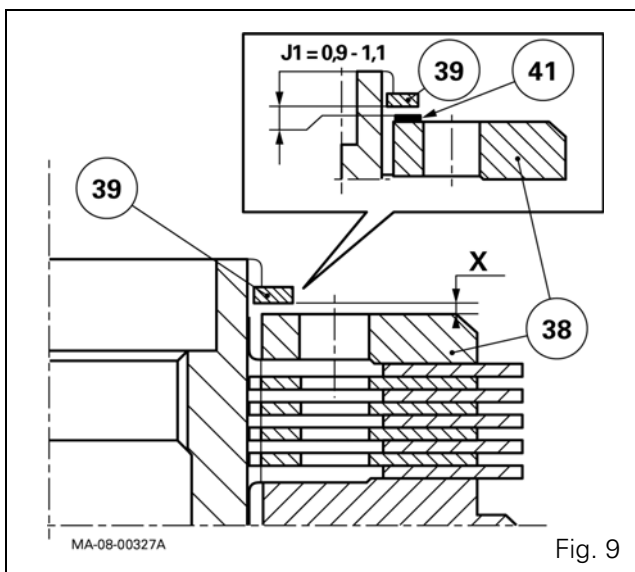

Fig. 9
38. Adjusting J1 clearance (Fig. 9)